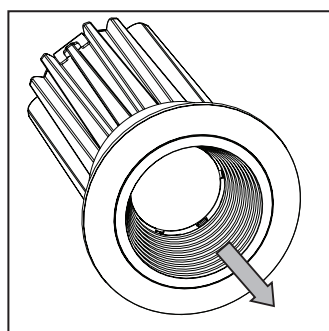

Figure 14
Step 1. Pull baffle or reflector out of trim. It may be necessary to insert a small screwdriver between the baffle and the optic holder to pry it free (Fig. 14).